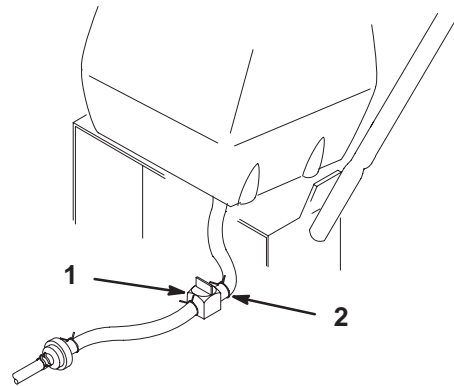

Figure 38
2. Close fuel shut-off valve at fuel tank (Fig. 38).
3. Squeeze the ends of the hose clamp together and slide it up the fuel line away from valve (Fig. 38).
4. Pull the fuel line off the valve (Fig. 38). Open fuel shut-off valve and allow gasoline to drain into a gas can or drain pan.
3. Close fuel shut-off valve at fuel tank (Fig. 38).
7. Open fuel shut-off valve at fuel tank (Fig. 38).
8. Check for fuel leaks and repair if needed (Fig. 38).